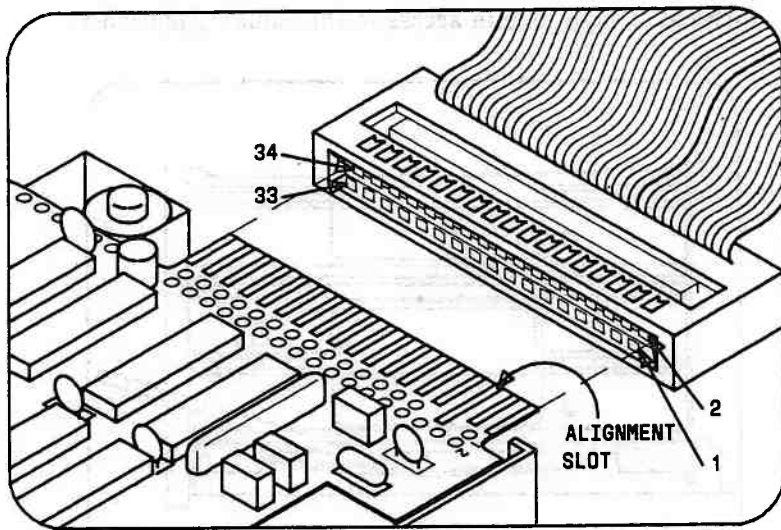

Figure 5-9. Connecting Signal Cable to MFD Unit
10. Plug the twisted (MFD Unit A) connector into the MFD Unit B. The MFD Unit B becomes MFD Unit A (Figure 5-9).